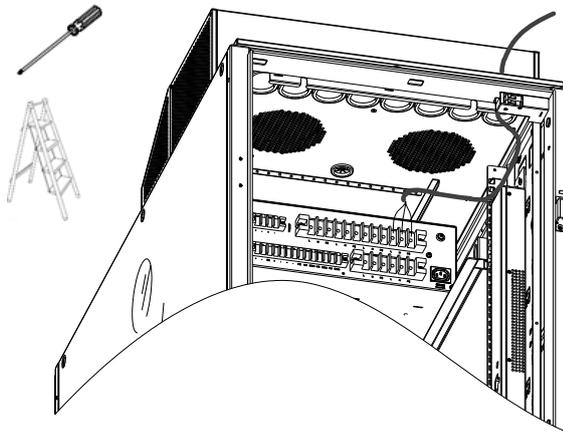

Figure 2-27 Power wires connection
- 1) Use a utility knife to cut open the two guard rings on the left and right of Figure 2-27;